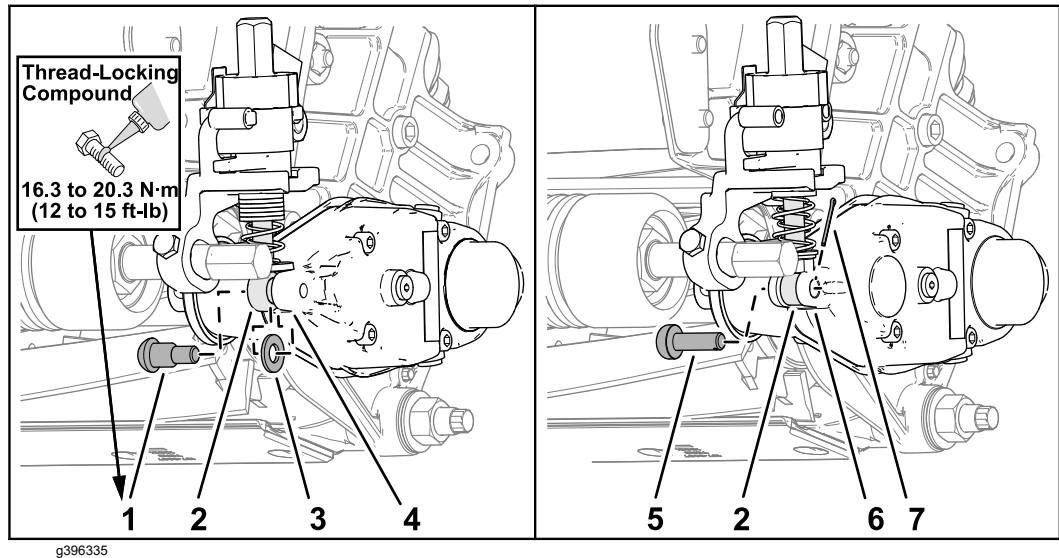

Figure 125
10. Assemble the eye bolt of the groomer adjuster to the gearbox cover (Figure 125).